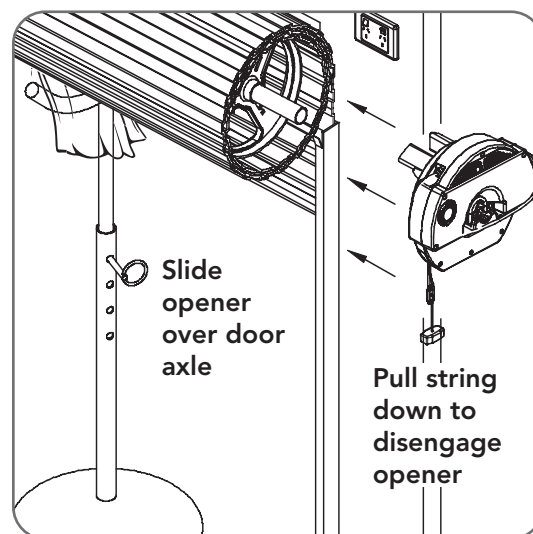

Fig. 6.7
- Slide the opener over the door axle and into the drum of the door as shown in **Fig 6.7**.